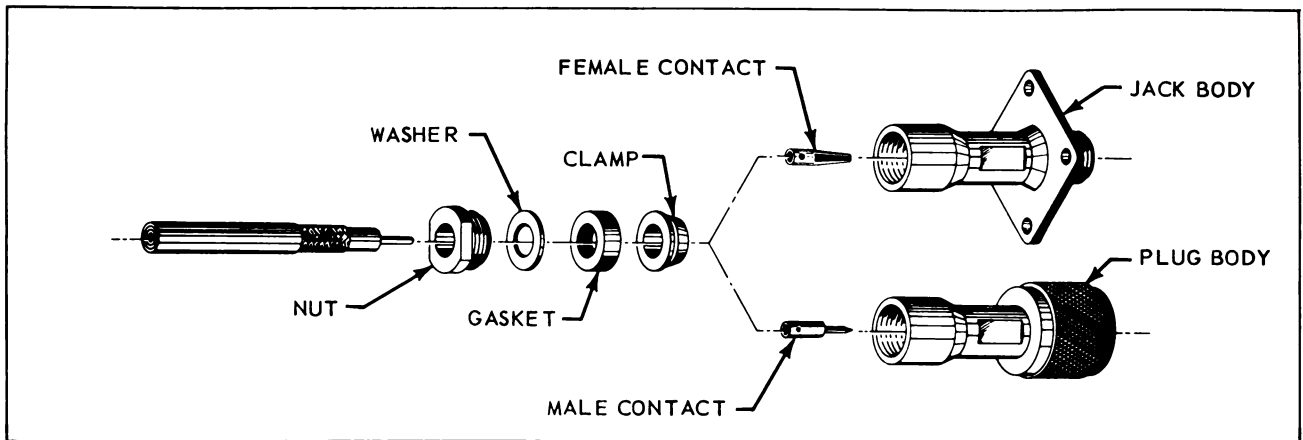

Figure 4-22. Standard HN Connectors - Exploded View
a. Standard Version (See Figure 4-22) - consists of a plug or jack body assembled to coaxial cable with nut, washer, gasket and clamp. Plug UG-59A/U and Jack UG-60A/U are typical of this version.
a. Disassemble nut, washer, gasket and clamp from plug or jack body. See Figure 4-22.